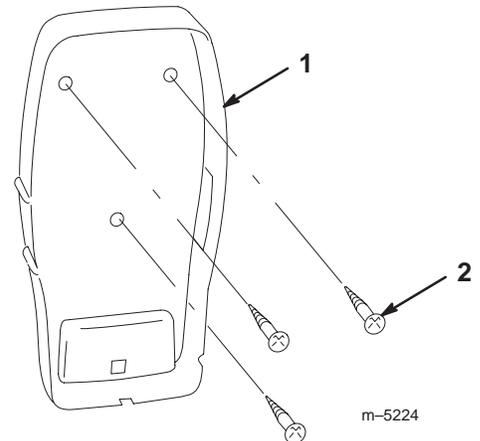

Figure 7
2. Tab (2)
3. 1.5V C-cell battery (3)
- Mount the perimeter switch permanently with three screws (Fig. 7).